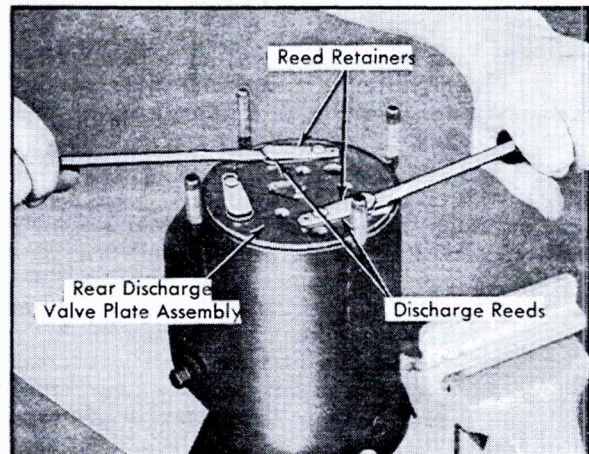

Fig. 1-55 Removing Rear Discharge Valve Plate
11. Carefully remove rear discharge valve plate assembly. Use two small screwdrivers under reed retainers and pry up on assembly, Fig. 1-55. Do not position screwdrivers between reeds and reed seats.